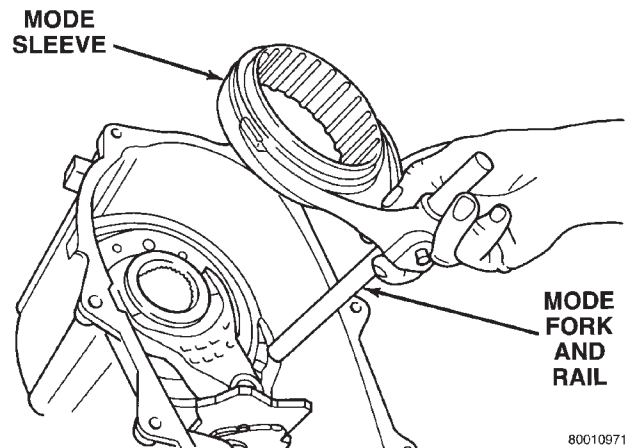

Fig. 62 Assembling Mode Fork And Sleeve
(7) Insert mode sleeve in mode fork mode fork. Be sure long side of sleeve is toward long end of shift rail (Fig. 62).